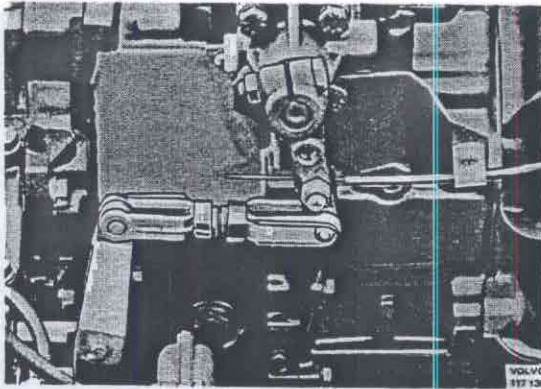

Fig. 43-41. Wire for shift indicator
6. Remove the wire for the shift indicator, see Fig. 43-41, from the outer shift axle housing.